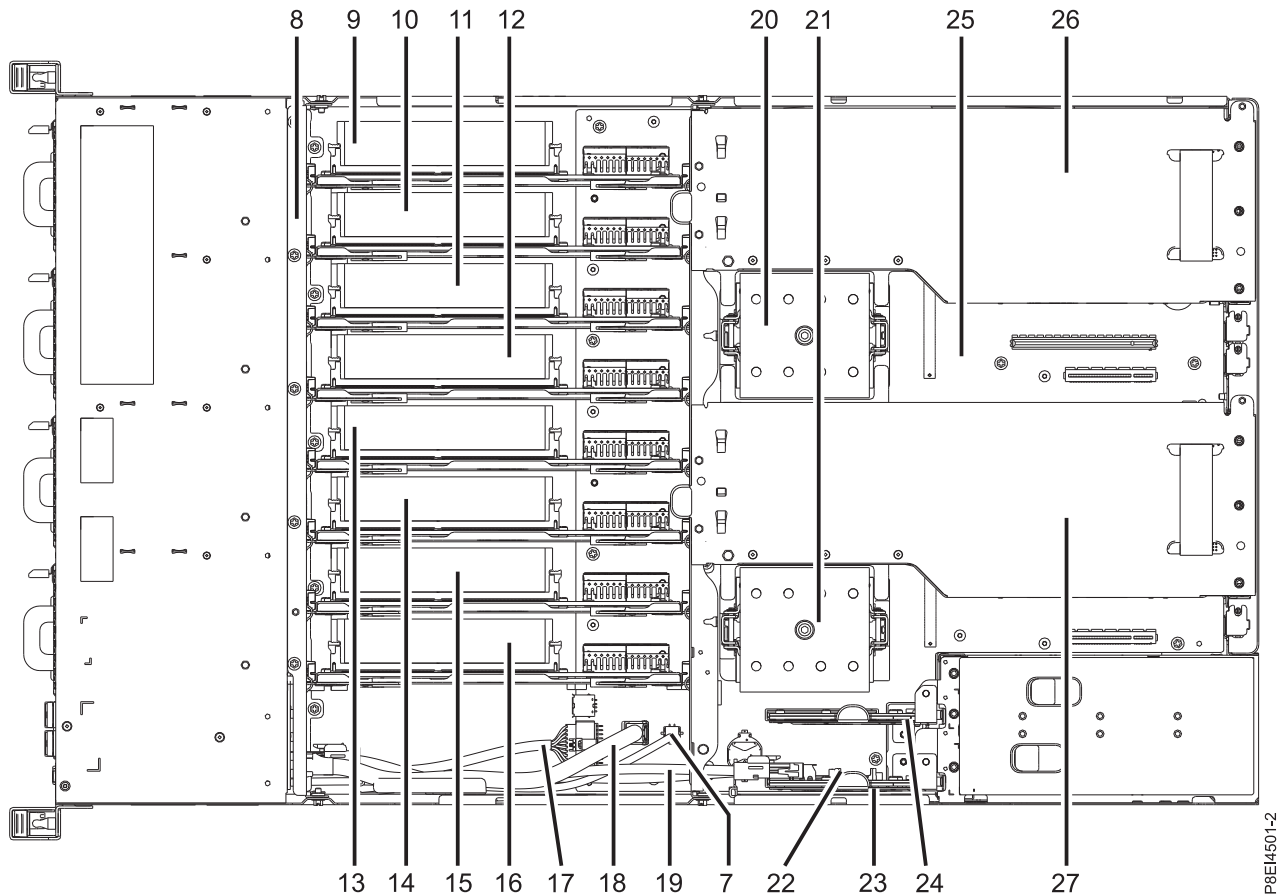
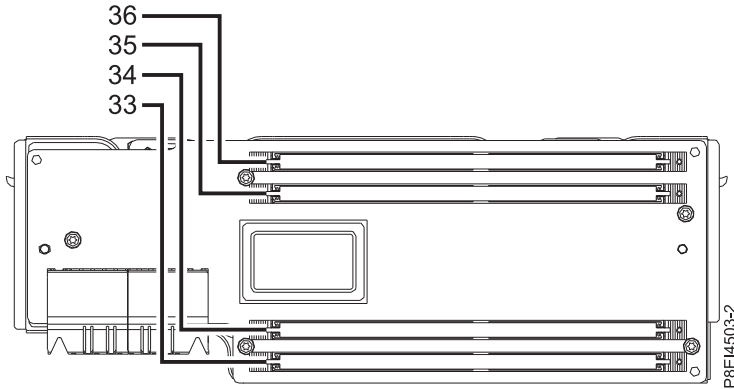

Figure 86. Location of the memory risers; positions 9 through 16
Figure 87. Location of the memory DIMM slots on the riser; positions 33 through 36
2. Locate the memory riser that contains the failed memory DIMM. Figure 86 shows the location of the memory risers in the 8335-GTB system and Figure 87 on page 72 shows the DIMM slot locations on the riser.